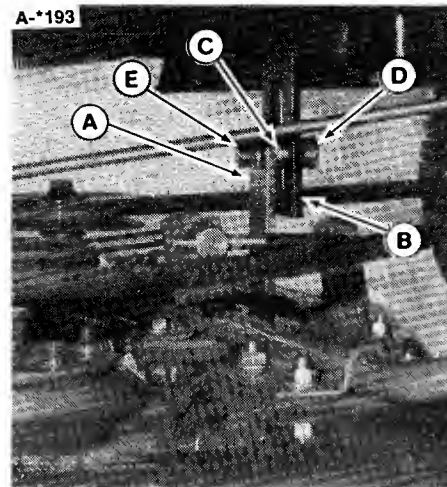

Figure 22. Mower Upstop Bracket - 36\"
3. Slide the mower back toward the left and forward to align mower bracket (A, figure 22) in front of upstop bracket (B). (If drag link interferes with hitch, push hitch up for clearance.)
5. Apply a little grease to the inside of the spacer (C, figure 22) and place the spacer on the bolt (D). Install the bolt thru the upstop bracket and mower bracket from the rear. Install the locknut (E) and tighten securely. The spacer (C) must ride inside the upstop bracket (B).
3. Remove the bolt, spacer, locknut from the mower bracket (A, figure 22).
2. Remove the bolt, spacer, lockwasher and nut from the mower bracket (A, figure 22 on page 27).
7. Remove the belt. Push brake away to slip belt off pulleys. Slide the mower to one side to slip belt between mower bracket and upstop bracket (B, figure 22).